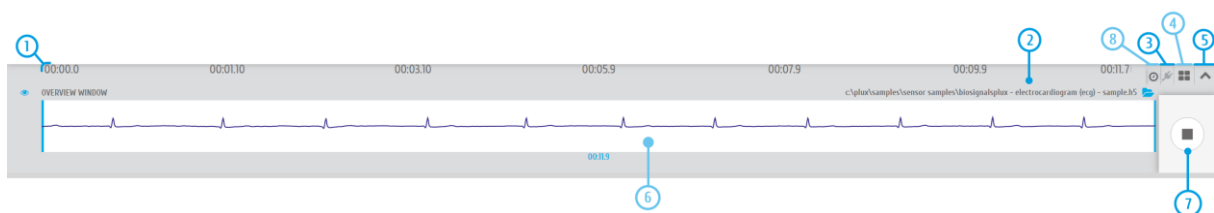

Figure 114: Control bar.
- Time axis (x-axis; 1 in Figure 114)
- File information and access to open file dialog (2 in Figure 114)
- Access *OpenSignals (r)evolution* add-ons (3 in Figure 114)
- Multi-channel visualization modes (4 in Figure 114)
- Unhide hidden channels (5 in Figure 114)
- Overview window (x-axis adjustments; 6 in Figure 114)
- Return to *OpenSignals*' main interface (7 in Figure 114)
- Switch Time-axis (new functionality; 8 in Figure 114)